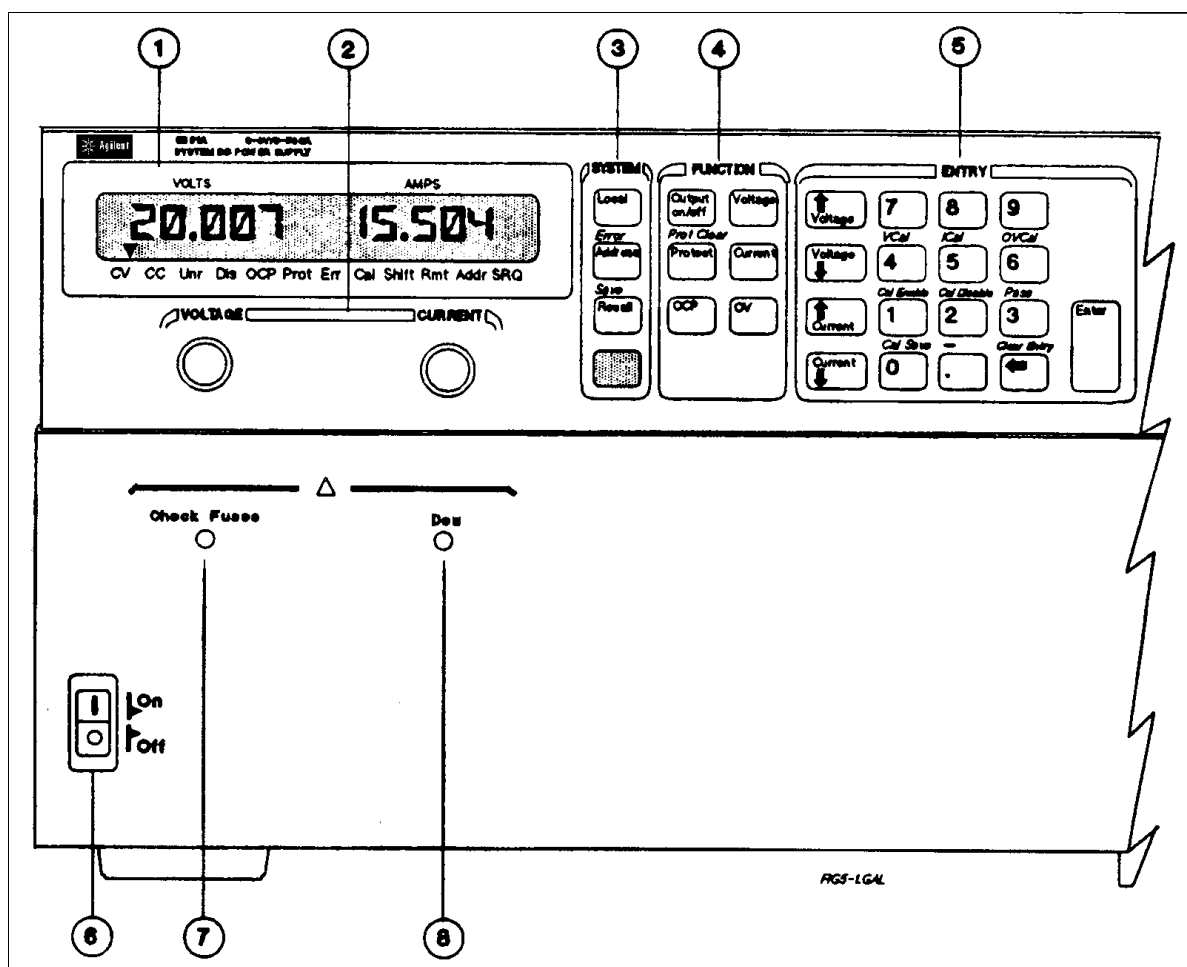

Figure 5-1. Front Panel Controls and Indicators
The front panel is summarized in Figure 5-1 and Table 5-1. Note that the panel is organized as follows:
- ① LCD display (including annunciators)
- ② Output VOLTAGE and CURRENT rotary (RPG) knobs
- ③ SYSTEM keypad
- ④ FUNCTION keypad
- ⑤ ENTRY keypad
- ⑥ Power (LINE) switch
- ⑦ Fuse LED (Series 668xA only)
- ⑧ DEW LED (Series 668xA only)
Some keys have two functions. For example, the System **Recall** key (3, Figure 5-1) can be used either to recall a stored operating state or to **Save** (store) an operating state. The first operation is shown **on** the key and the second (shifted) operation is shown in blue **above** the key. In order to do a shifted operation, first press the solid blue key, which is unlabeled but shown throughout this manual as **Shift**.
Table 5-1. Front Panel Controls and Indicators (see Figure 5-1)